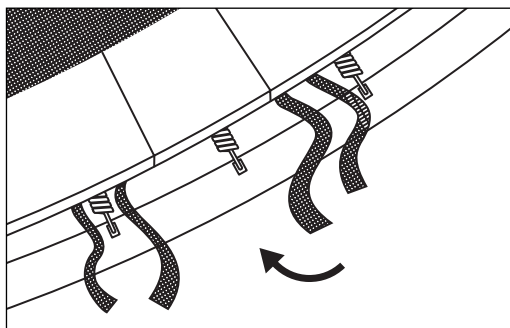

Fig. 5.1
- Lay the frame cushions (2) on the trampoline so that the springs and frame pipes are covered. Make sure that the cushion covers all metal parts. Stretch out the reinforcement straps (Fig 5.1) so that every second strap is extended over a leg support